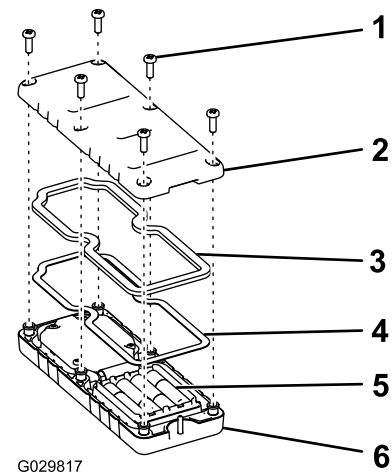

Figure 39
1. Remove the 6 screws from the back of the remote and remove the cover (Figure 39).
5. Replace the cover and secure it with the 6 screws removed previously (Figure 39) and torque them to 1.5 to 1.7 N-m (13 to 15 in-lb).